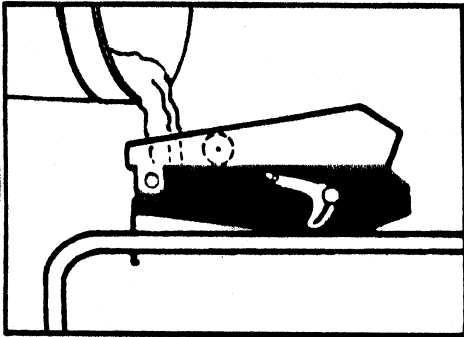

Figure 6
1. Fill trough from the backside. (Figure 6) Trough capacity 5.5 gallons.